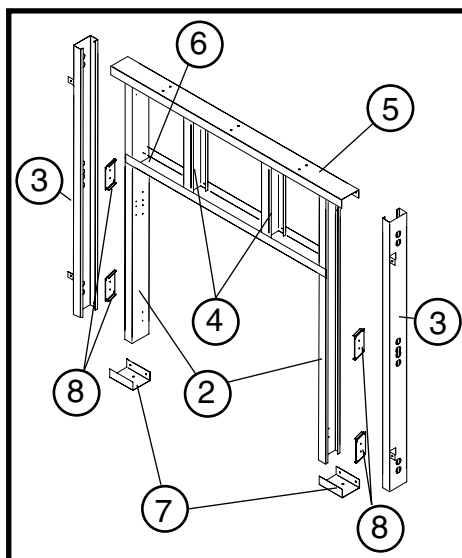
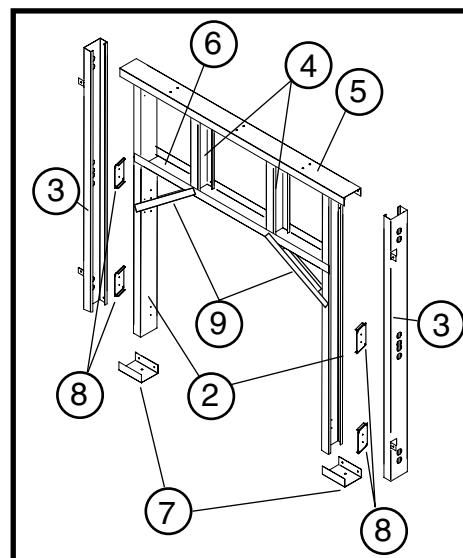

Figure 18: TC 36D regular frame.
Figure 19: TC 36D arched frame.
Using the screws provided, attach the upper header stud (5) and the stud plate (6) to the vertical center studs (4) (Figure 18 or Figure 19).
Attach the inner (2) and outer side studs (3) to the top of the upper header stud (5). (Figure 18 or Figure 19).
Fasten the inner and outer vertical side studs (2 & 3) at the bottom using the base plates (7) (Figure 18 or Figure 19).
If including the archway, attach the diagonal studs (9) (Figure 19) to the lower horizontal studs and the inner vertical studs.